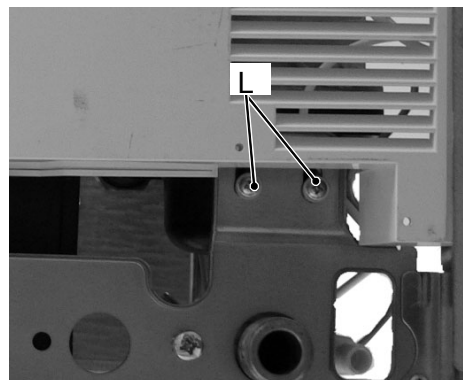

Figure 6
- 11) Unscrew the two screws L that hold the pump on the frame (Figure 6)